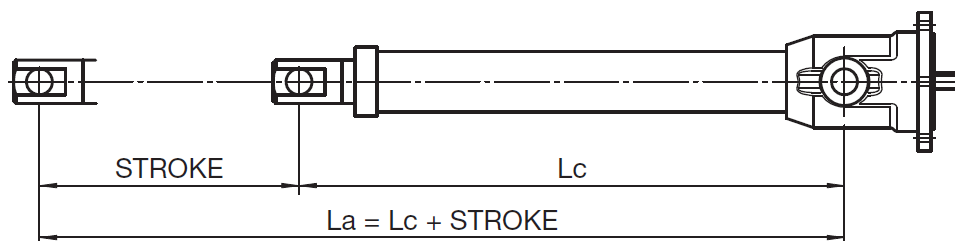

Figure 6.5 – “Lc” and “La” dimensions
- The positions of the two limit switches are the extreme travel positions Lc and La (see Fig. 6.5).
- The activation positions of the two limit switches are the extreme travel positions Lc and La (see Fig. 6.5).
- Check if the extreme dimensions of the actuator “Lc” and “La” (see Fig. 6.5) are compatible with extreme positions of the plant component that has to be moved.
- Before to start relubrication, put the actuator in extended position (La – see Fig. 6.5)